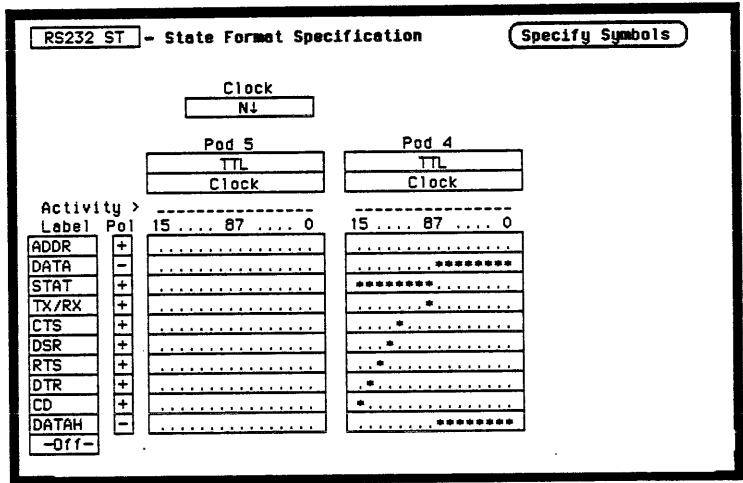

Figure E-1. Format menu for Analyzer 2
- Bring up the Format menu of Analyzer 2 and set up the labels and configuration for pods 4 and 5 as shown in figure E-1.
- Assign the following edge of the N clock to pods 4 and 5 as shown in figure E-1.